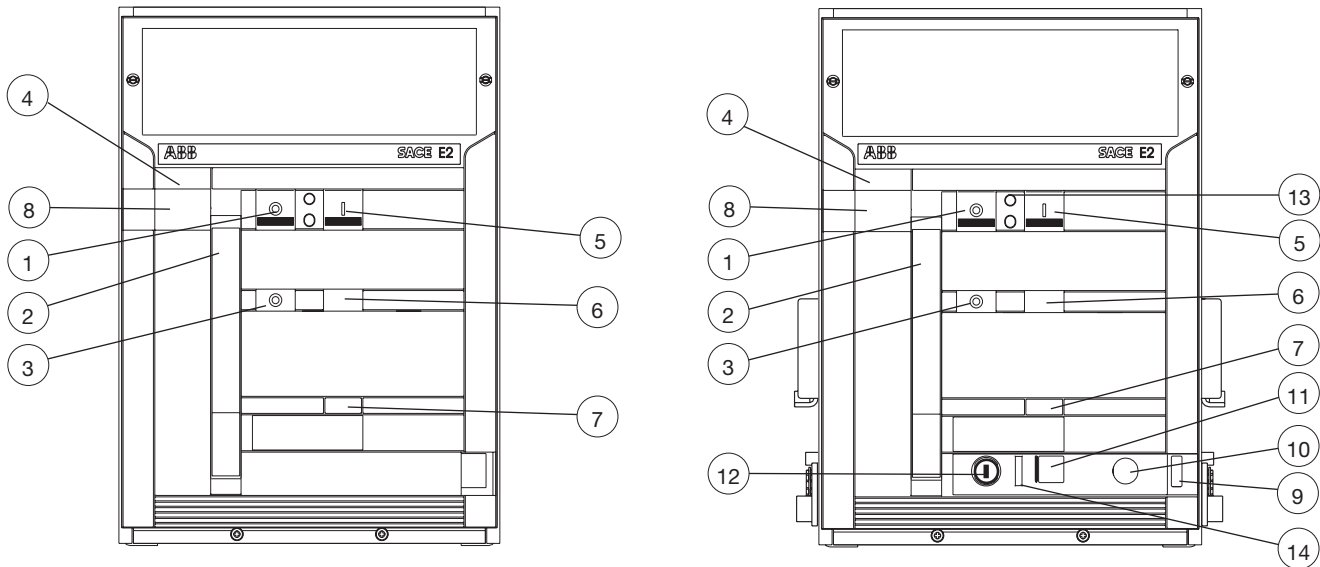

Figure 22.
- **DISCONNECTED:** the moving part is inserted in the fixed part **WITHOUT** any connection between the terminals and **WITHOUT** coupling the sliding contacts for the auxiliary circuits: in this position all electrical operation of the circuit-breaker is prevented. On the front the indicator (9, Figure 22) indicates **DISCONNECTED**. The switchgear compartment door can be closed.
- **TEST ISOLATED:** the moving part is inserted in the fixed part **WITHOUT** any connection between the power terminals, but **WITH** the sliding contacts coupled for the auxiliary circuits. In this position, the circuit-breaker can be operated for the offline tests. The indicator (9, Figure 22) indicates **TEST ISOLATED**.
- **CONNECTED:** the moving part is fully inserted in the fixed part **WITH** the connection of both the power terminals and the sliding contacts for the auxiliary circuits. The circuit-breaker is operational. The indicator (9, Figure 22) indicates **CONNECTED**.